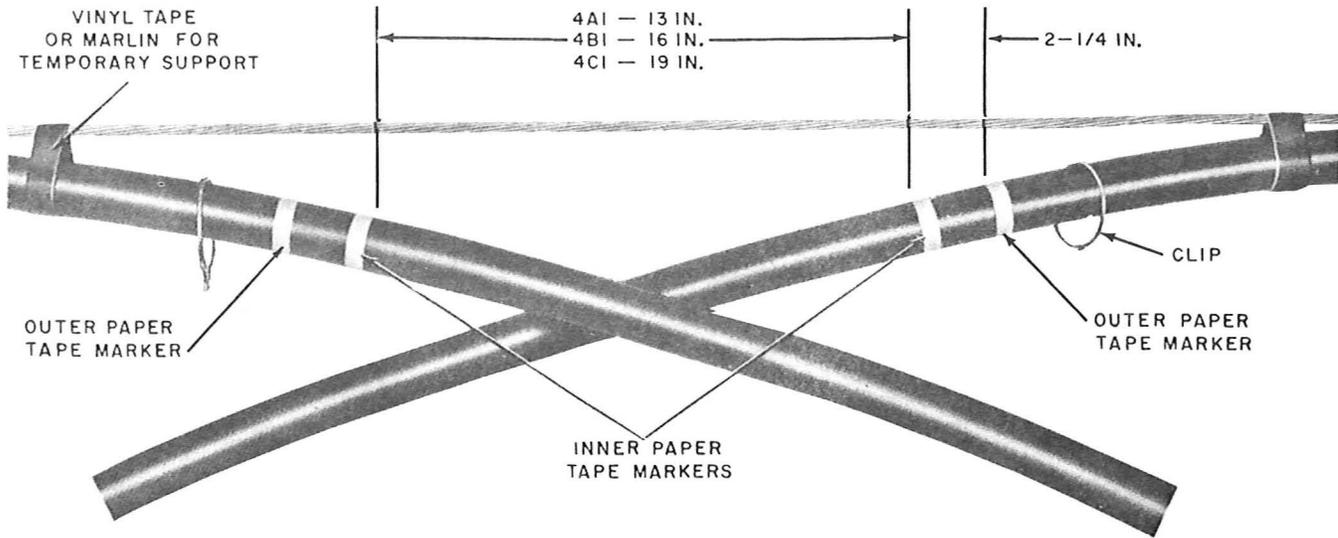

Fig. 2—Clips and B Paper Tape Markers Installed on Cable
3.01 Place the clips on each cable, then place B Paper Tape Markers on the sheath to mark the sheath opening and the tab lengths as shown in Fig. 2. Temporarily support the cable ends with marlin or D Vinyl Tape. Cable spacers and lashed cable supports may be placed in their approximate final position if desired, for additional support.